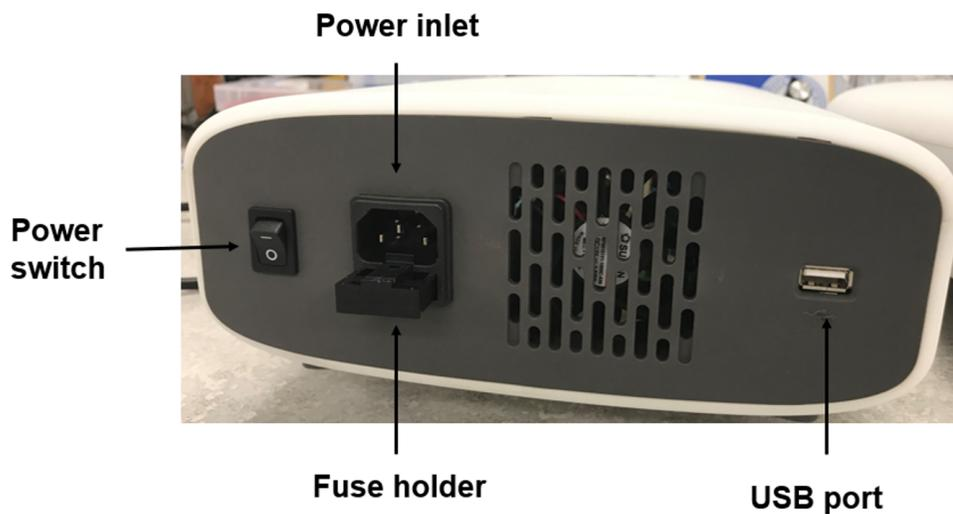

Figure 16 Rearview of PowerEase™ Touch 120W Power Supply
3. Pull the fuse holder out of the compartment and inspect the fuse. If the fuse is burned or there is a break in the fuse element, replace the fuse with an identical type of fuse (4 A/250 V) as provided in the fuse holder (see Figure 16).